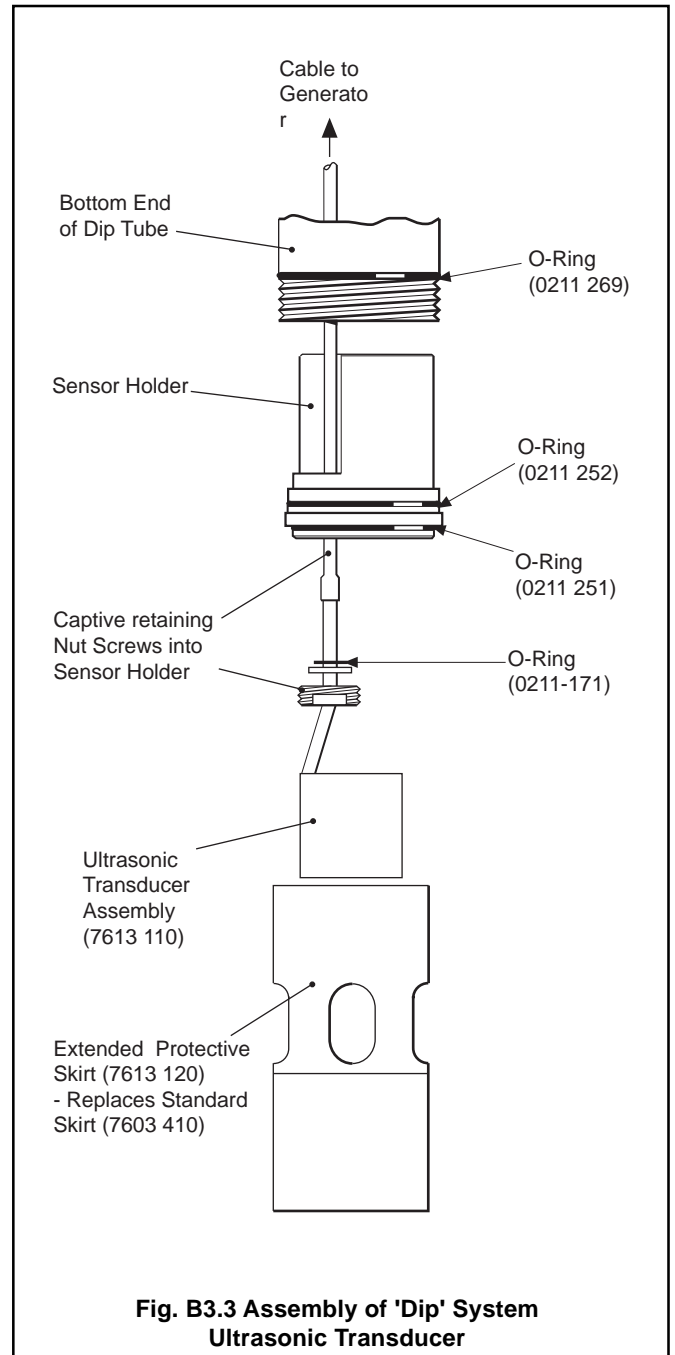

Fig. B3.3 Assembly of 'Dip' System Ultrasonic Transducer
- b) Unscrew the plastic skirt from the bottom of the dip tube taking care to retain the O-ring seal (Part No. 0211 260 – see Fig. B3.3) on the threaded part of the dip tube.
- e) Take the small O-ring seal (0211 171) and feed it over the transducer coaxial cable until it is against the welded flange as shown in Fig. B3.3.
The 'add-on' kit for converting an existing 7654 or 7655 dip system contains the following items, as shown in Fig. B3.3.